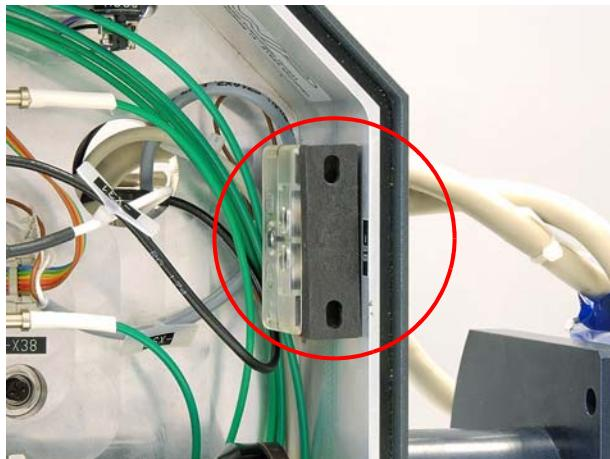

Figure 7.104 Interlock switch bridged
20. Bridge the interlock switch (Figure 7.104).